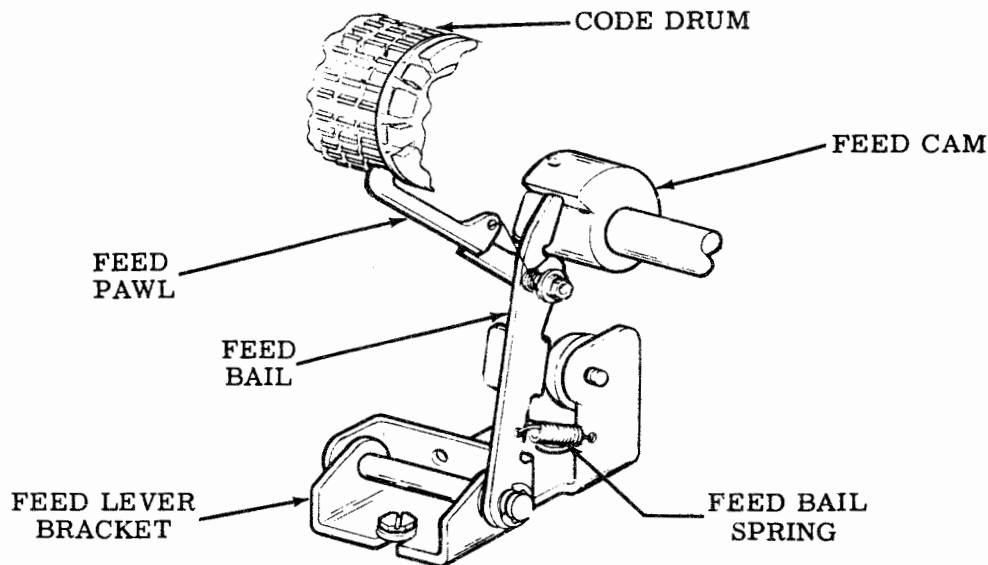

Figure 8 - Feed Mechanism
2.12 The feed mechanism is attached to the base of the main mounting bracket and consists of a feed lever bracket, feed bail, and feed pawl. The mechanism is shown in Figure 8.